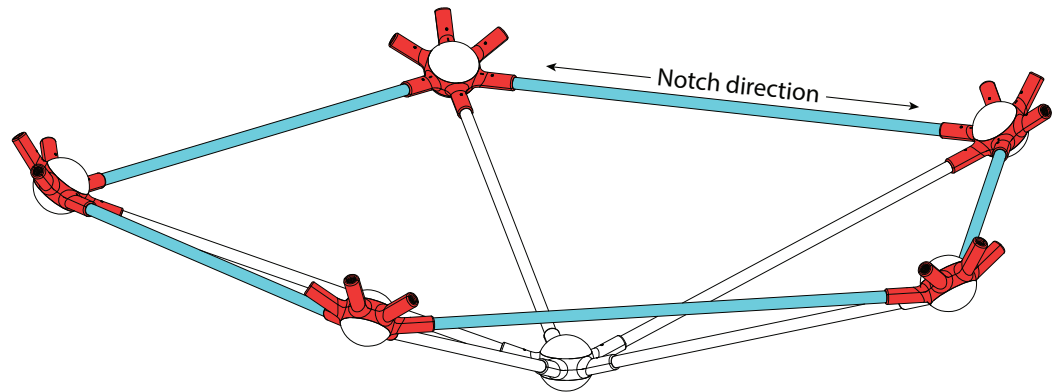

Fig. 4
- Connect the H6 Hubs using C2 Arms as shown in Fig. 4.